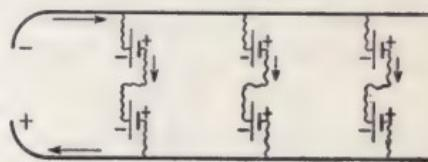

FIG. 5.
**16.** Cells are connected in **multiple-series** by arranging them in several groups, each group being composed of several cells connected in series, and then connecting all the groups together in parallel, or multiple-arc, as shown in the diagram, Fig. 5. This method is used where both a higher potential and a stronger current are required than any one cell of the group will give.